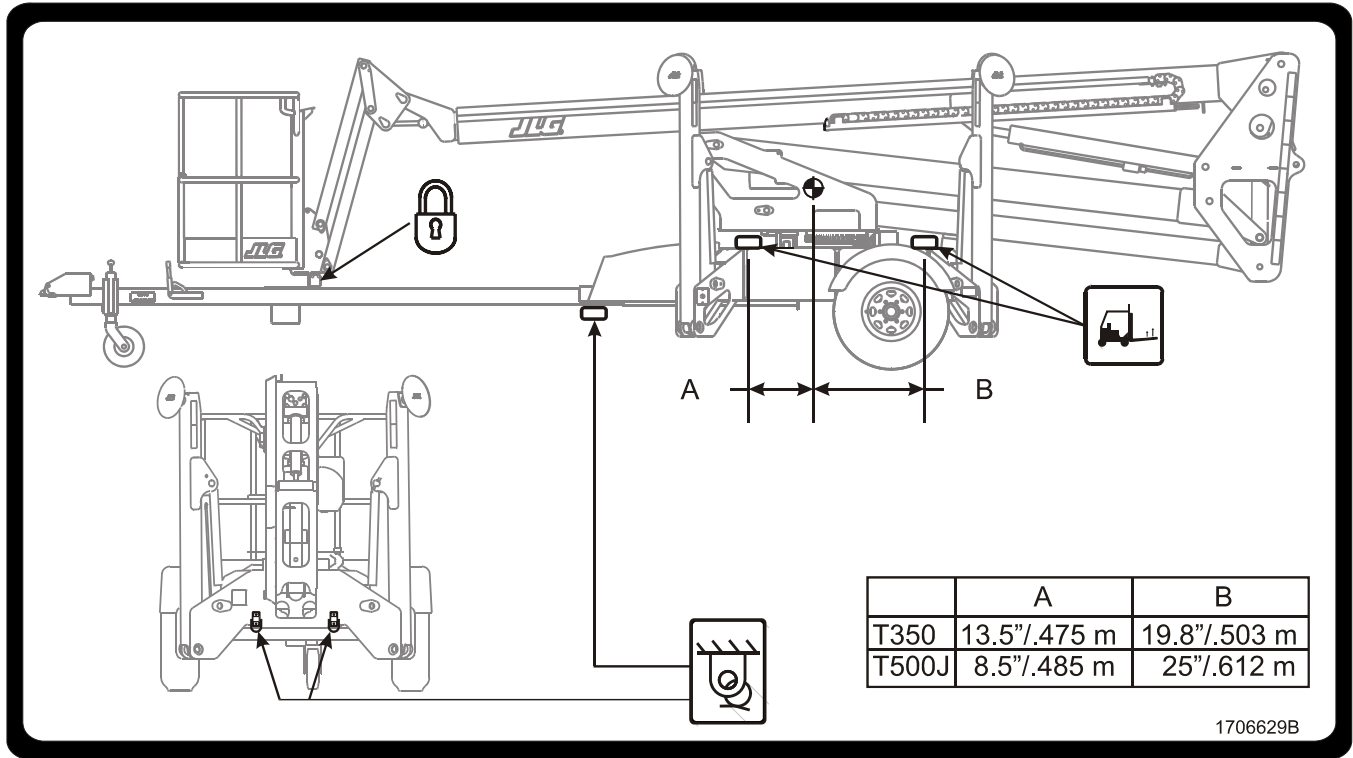

Figure 5-9. Lifting and Tie Down Chart S/N 0030000864 to Present
1. Place the boom in the stowed position and secure with the transport latch.(See Figure 5-9.)
3. Secure the chassis and the platform using straps or chains of adequate strength and attached to the designated tie down points. (See Figure 5-9.)